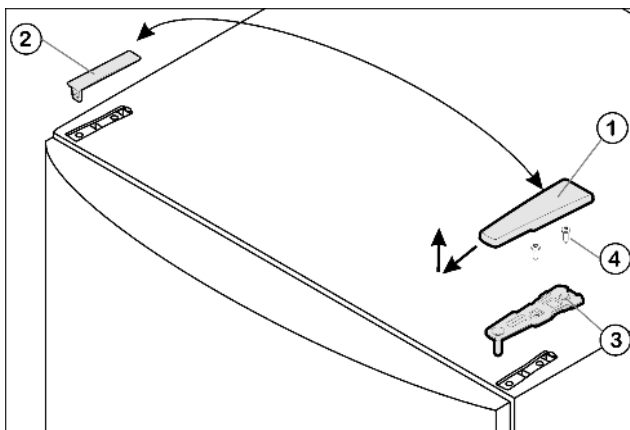

Fig. 4
- ▶ Pull off the cover Fig. 4 (1) forwards and upwards.
- ▶ Lift off the cover Fig. 4 (2).
- ▶ Unscrew the upper turn hinge Fig. 4 (3)(2x Torx® 25) Fig. 4 (4) and lift it off.
- ▶ Insert the upper turn hinge Fig. 4 (3) in the door on the new hinge side.
- ▶ Screw the upper turn hinge **firmly** into place (with 4 Nm) (2x Torx® 25) Fig. 4 (4). Possibly make preliminary holes with a bradawl or use a cordless screwdriver.
- ▶ Apply the cover Fig. 4 (1) and cover Fig. 4 (2) to the opposite side from the outside and snap them into place.